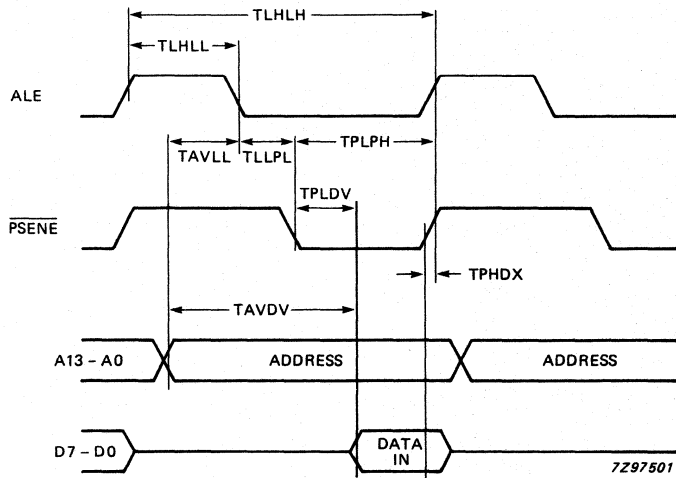

Fig. 18 Reading from quasi-internal program memory.
**A.C. CHARACTERISTICS** (Non-standard pins. See Fig. 18)Conditions: 12 MHz clock,  $C_L = 80$  pF on A0-A13 $C_L = 100$  pF on  $\overline{PSEN}$ , ALE $V_{CC} = +5\text{ V} \pm 10\%$ ,  $T_{amb} = 0$  to  $+70\text{ }^\circ\text{C}$